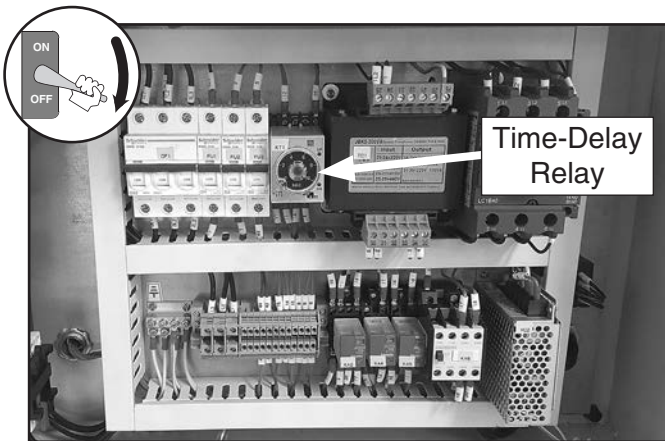

Figure 73. Location of foot pedal time-delay relay.
3. Turn knob on time-delay relay to adjust foot pedal time delay (see **Figure 73**).